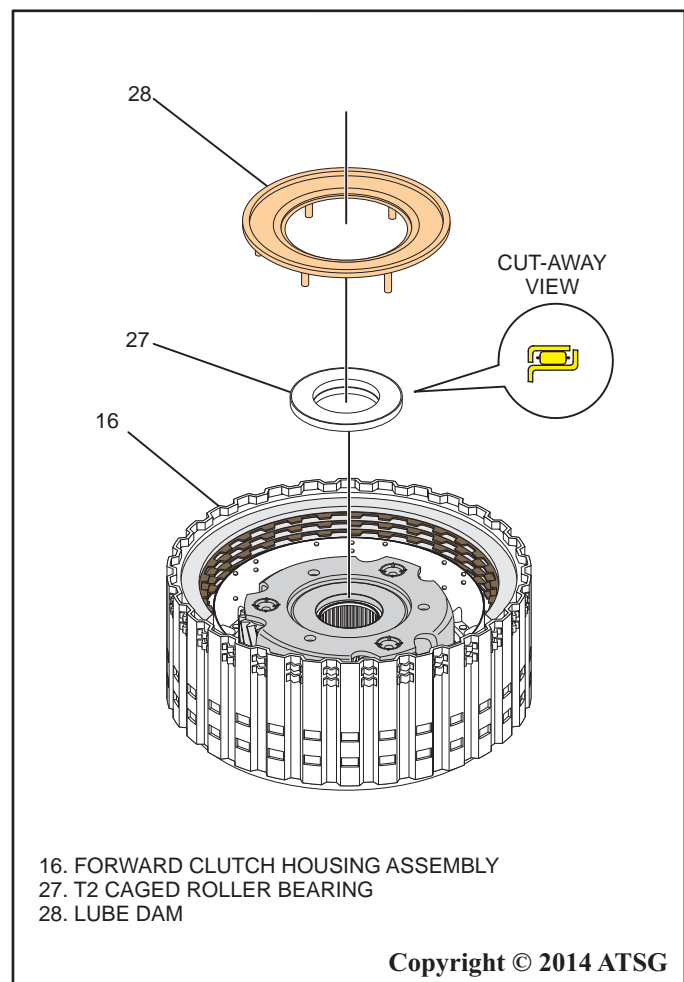

Figure 93
52. Install the T2 caged roller bearing onto the top of the front planetary carrier and use a small amount of Trans-Jel® to hold the bearing in place as shown in Figure 93.
53. Install the lube dam onto the top of the front planetary carrier and use a small amount of Trans-Jel® to hold the lube dam in place as shown in Figure 93.